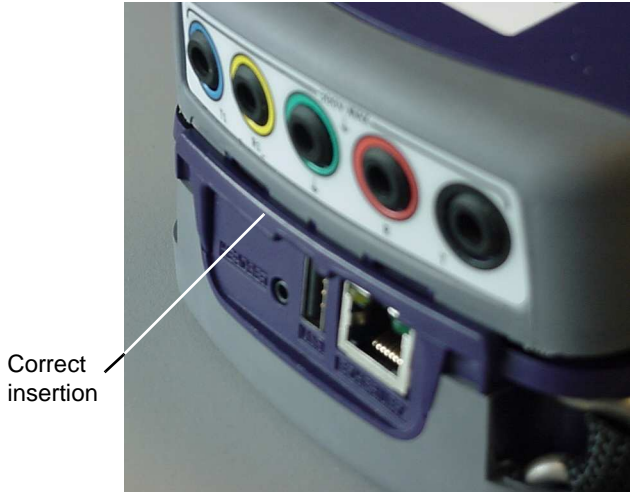

Figure 9 Inserting the SIM tab
- 3 Position the SIM at approximately a 45 degree angle and push the tab under the lip as shown in Figure 9.